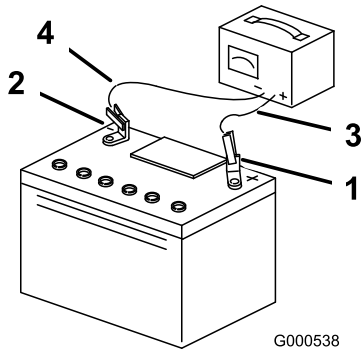

Figure 36
4. When the battery is fully charged, unplug the charger from the electrical outlet, then disconnect the charger leads from the battery posts (Figure 36).